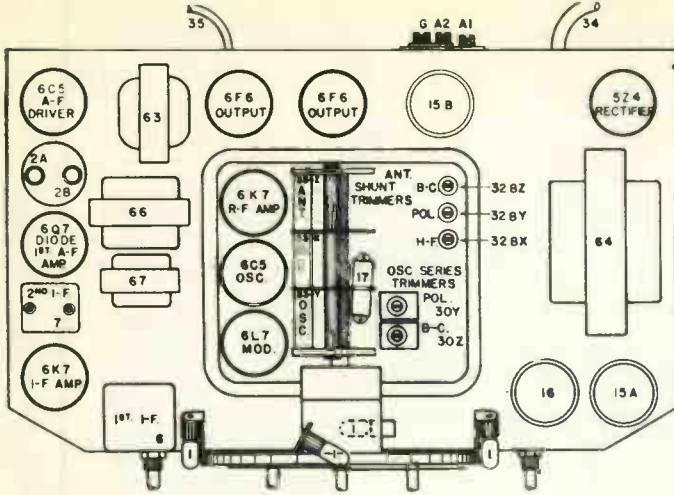

Fig. 2. Top View 955
- (c) Set the band selector switch to the broadcast band and rotate the station selector to approximately 60 on the dial. Turn the volume control knob to the right (ON), turn the tone control knob to the left (TREBLE) and turn the expressionator switch OFF.
- (e) Adjust the trimmer condensers located on top of the 2nd. I-F transformer for maximum output. (7 Fig. 2).
(b) To align the series trimmers, 30Y and 30Z Fig. 2, set the signal generator to the frequency indicated (c) and then tune-in this signal with the station selector for maximum output. At the same time that any series trimmer is being adjusted rotate the station selector back and forth slightly until no further improvement in output can be obtained.